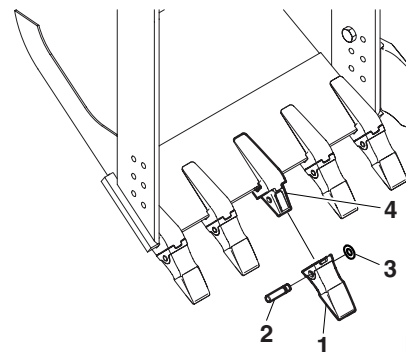

Figure 3
2. To replace a tooth (1, Figure 3), use a hammer and punch to drive the locking pin (2) and lock washer (3) out of the tooth adapter (4).